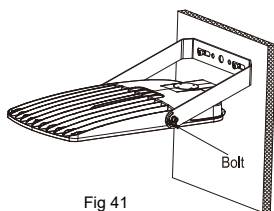

Fig 41
Step 4: Use terminals in the junction box to connect the lamp input line to the mains. L to L(Black), N to N(White), PE to PE (Green); If need to connect dimming wires from the pole to fixture, please also use the connector to connect "Dim +"(Purple) to "Dim +"(purple), "Dim -(Pink) to "Dim -(pink), as shown in Fig. 41